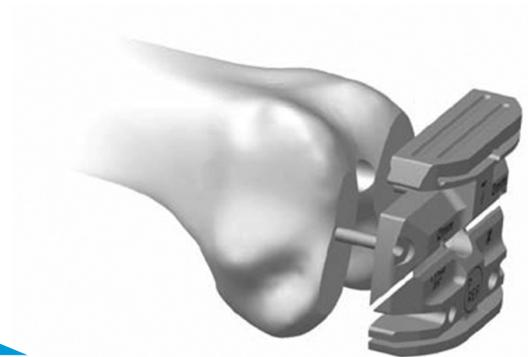

Fig. 23
- Insert the *Persona* Posterior Referencing 4-in-1 Cut Guide (Fig. 23).